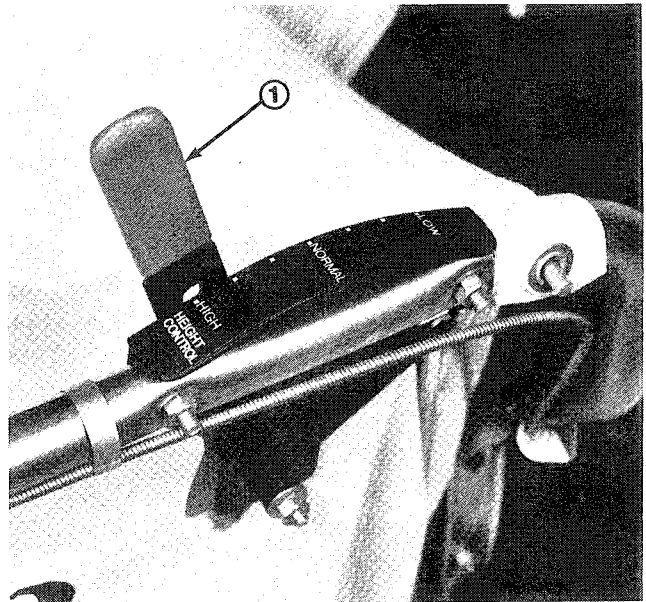

Figure 11
2. Move the height adjustment control forward to lower the intake housing; to the rear to raise the housing (Fig. 11).